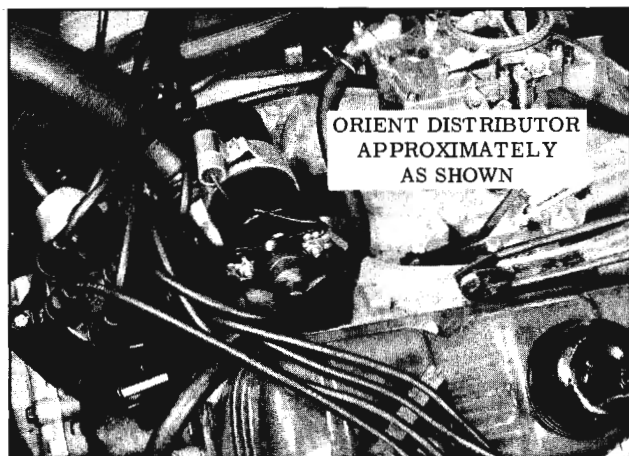

Fig. 14-129 Distributor Installation
2. Install the distributor with the vacuum advance positioned to the right of the engine as shown in Fig. 14-129.